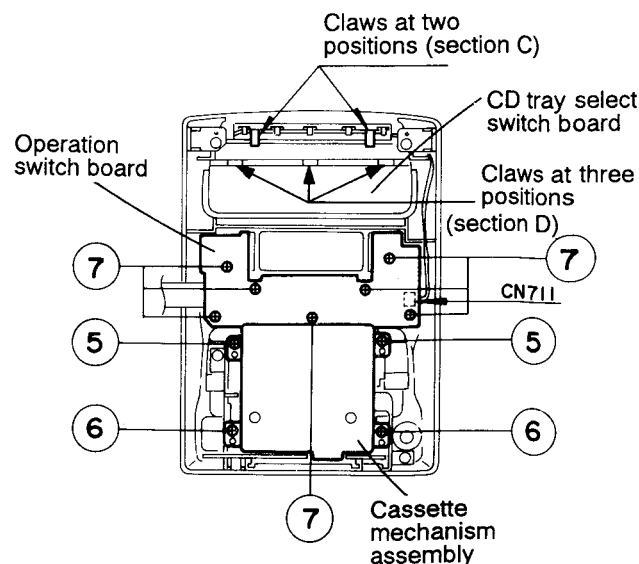

Fig. 5-7
(Fig. 5-7).
### ◆ Removing the CD tray select and operation switch boards (Figs. 5-7 to 5-9)
1. Remove seven screws ⑦ securing the operation switch board (Fig. 5-7).
2. Remove the 2-pin connector coming from the CD tray select switch board from connector CN711 on the operation switch board (Fig. 5-7).